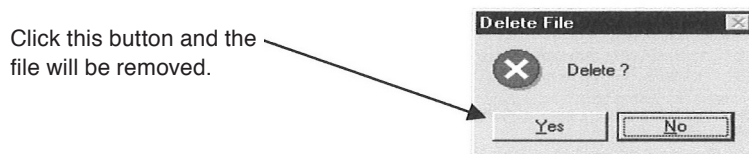

Fig.63
- ① Click on "File (F)" at top-level menu of the screen, select "Database (F)", select "Delete File (D)" and click on again.
- ② Select the disk and folder that contains the file you want to remove from the dropdown list.
- ③ Select the file you want to remove by clicking it. Files that can be deleted are only those the filenames of which have an extension ".ovu".
- ④ In response to the click, the file you selected opens and a message box as shown in Fig. 63 appears. Click on "YES" button if you want to delete, or "NO" if you do not want. Clicking on "YES" deletes that file.